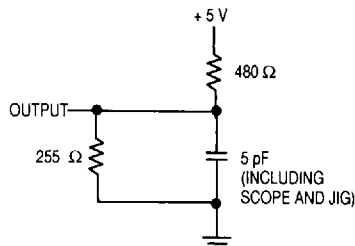

Figure 1b
5. Transition is measured ± 500 mV from steady-state voltage with load of Figure 1b.
5. Transition is measured  $\pm 500$  mV from steady-state voltage with load of Figure 1b.